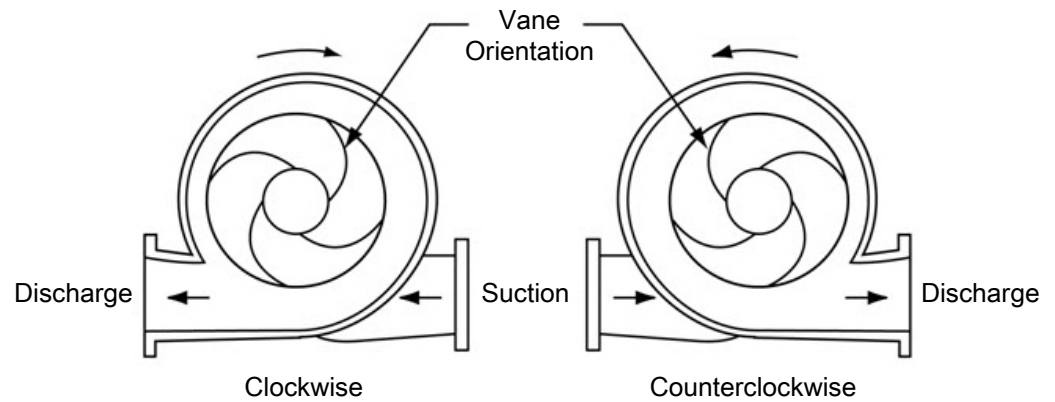

Figure 41: Impeller rotation orientation diagram viewed from drive end
4. Observe the direction in which the vane tips are pointing (see Figure 41: Impeller rotation orientation diagram viewed from drive end on page 99).